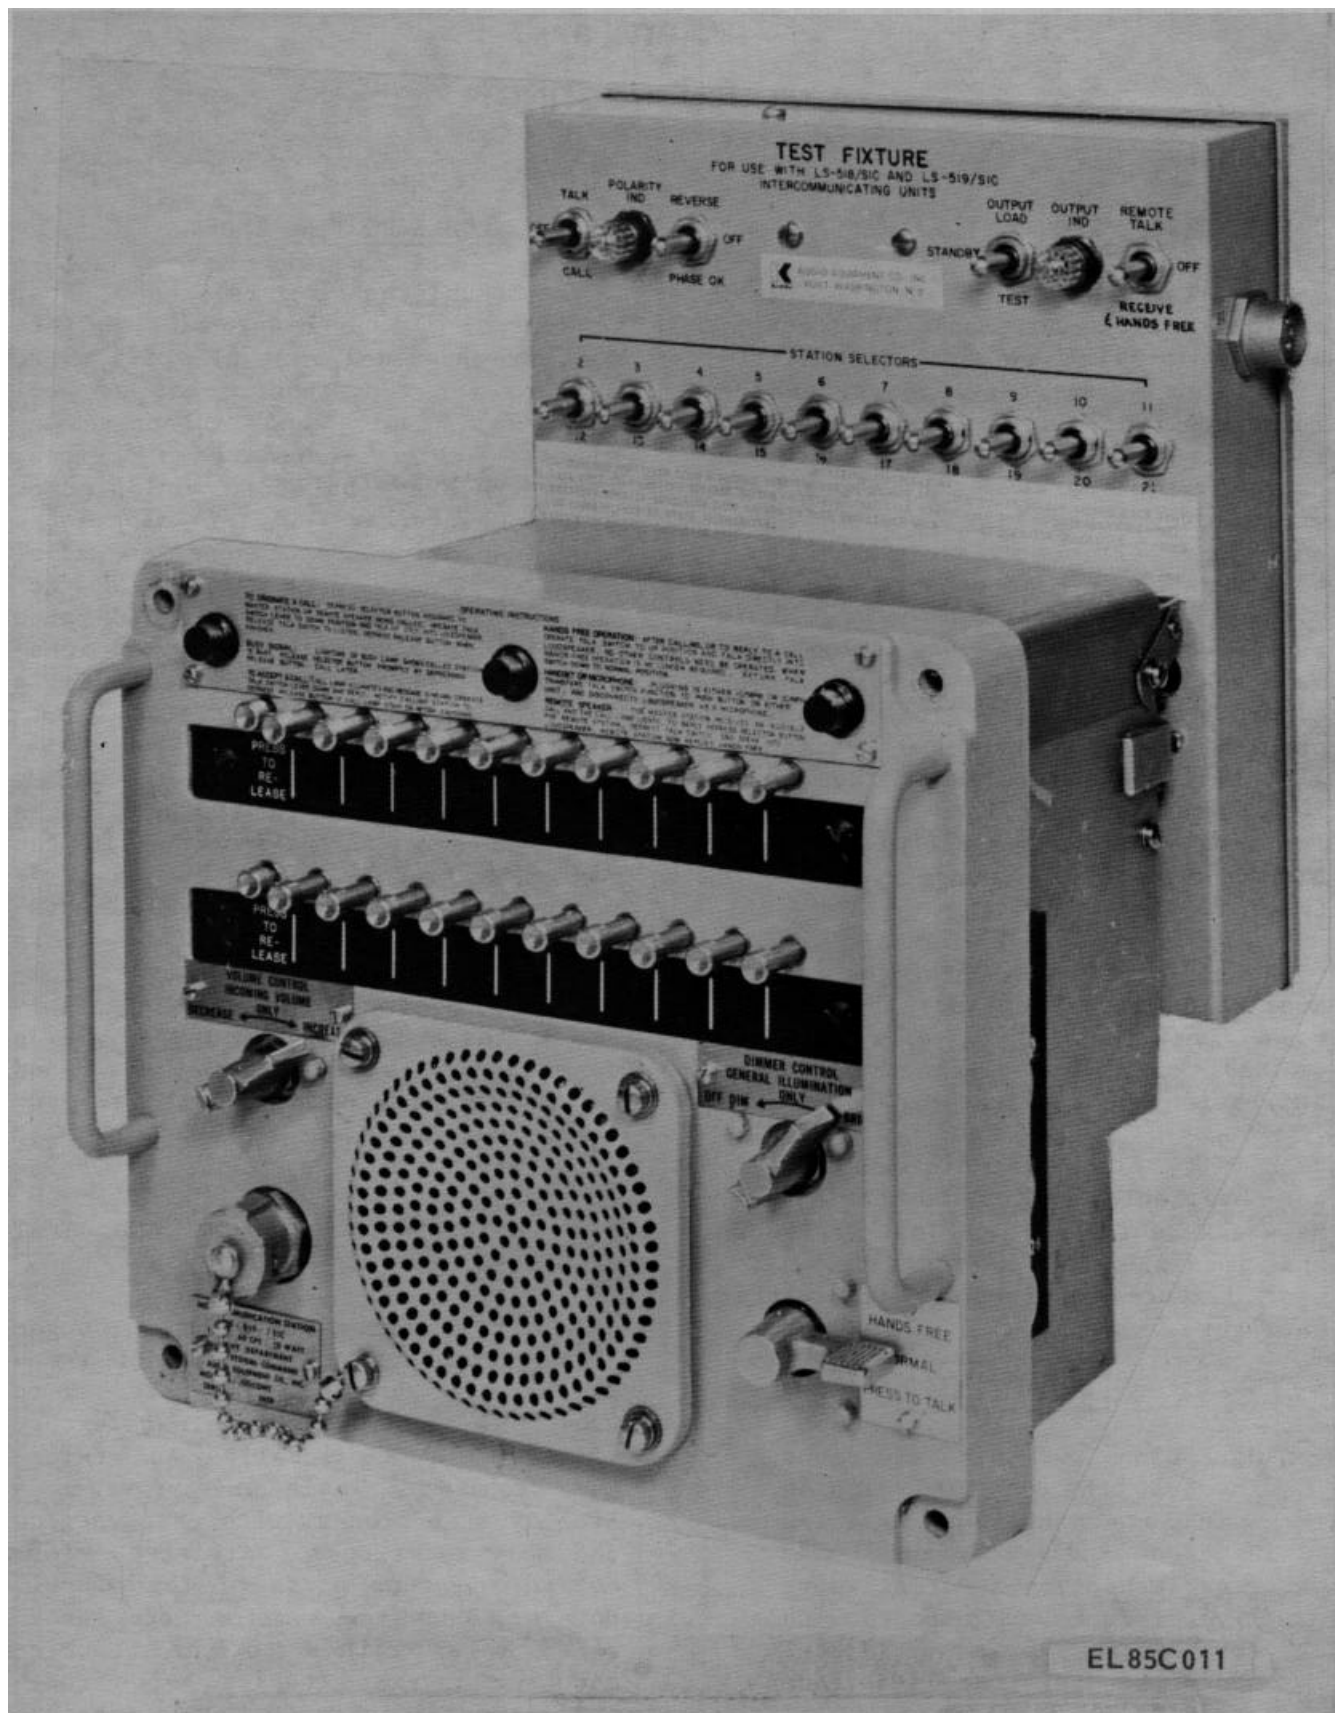

Figure 5-1. Master Station and Test Fixture, Connected.
b. If sufficient information is not available, refer to table 5-4, Maintenance Turn-On and Test Procedure and localize the malfunction. The test fixture required is illustrated on figure 5-1.
5-7. If a master station is thought to be defective, but the exact symptoms are not known, refer directly to table 5-4 and utilize the test fixture (figure 5-1) to localize and define the problem. Table 5-4 provides a step by step process with observations and some references to related information in other parts of the manual. However, once the symptoms are recognized refer either to the troubleshooting indexes (tables 5-1 through 5-3) or go directly to the appropriate troubleshooting paragraph and isolate the defective part.